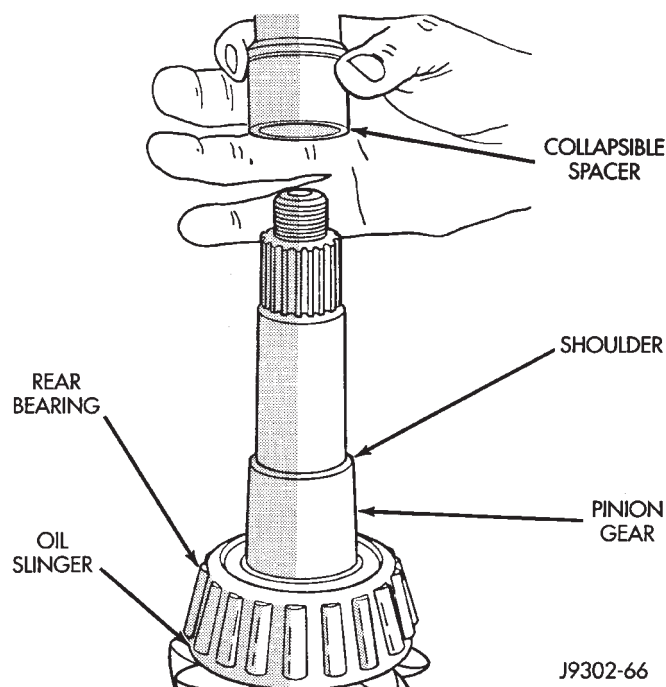
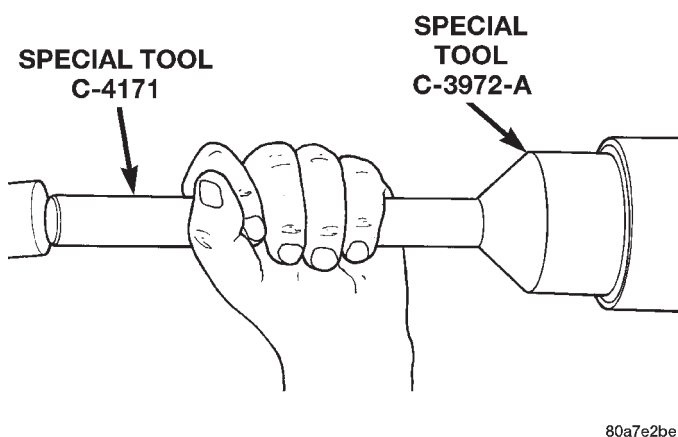

Fig. 19 Collapsible Preload Spacer
Fig. 20 Pinion Seal Installation
(1) Install a new collapsible preload spacer on pinion shaft (Fig. 19).
(2) If pinion gear was removed, install pinion gear in housing.
(3) Install pinion front bearing, if necessary.
(4) Apply a light coating of gear lubricant on the lip of pinion seal. Install seal with Installer C-3972-A and Handle C-4171 (Fig. 20), if necessary.